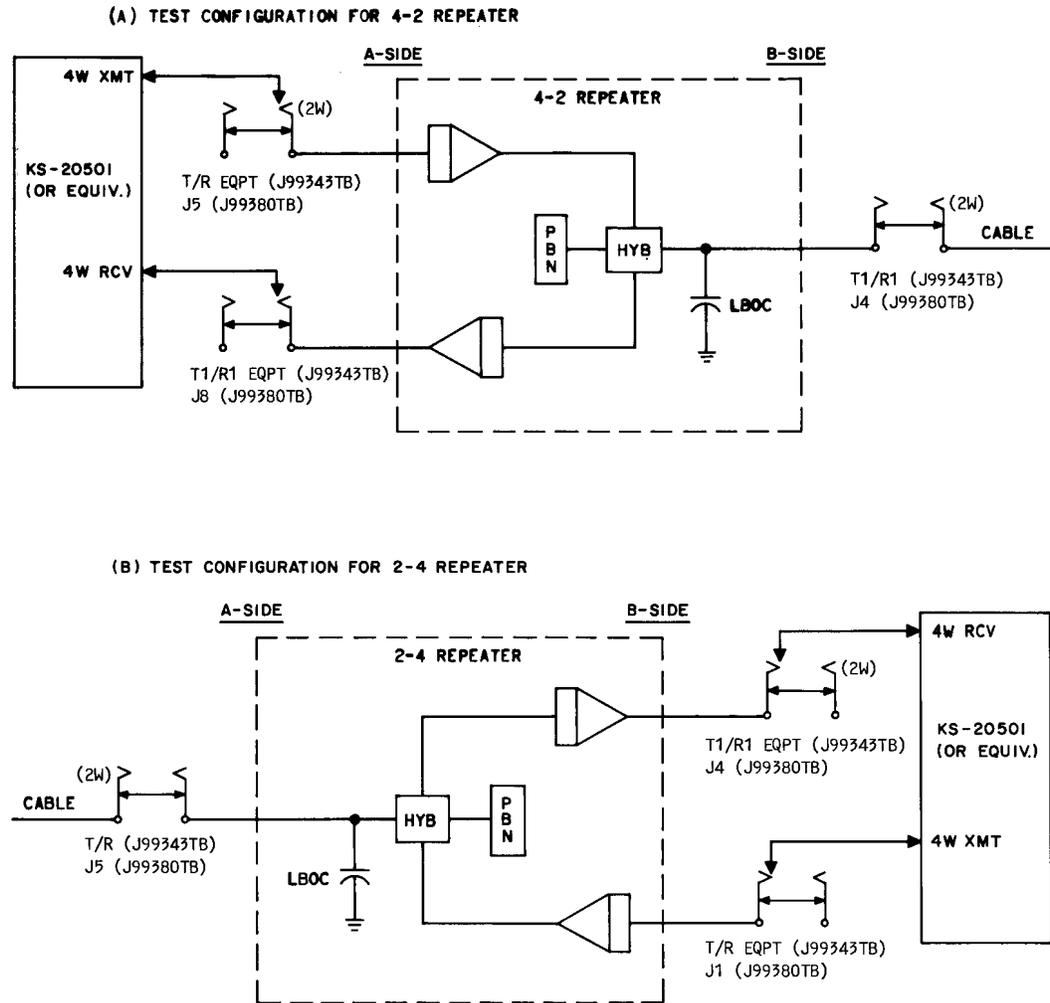

Fig. 15—Test Configuration For Setting the Precision Balancing Network by Measurement
8.07 The following procedure describes an orderly way to determine a PBN setting by the measurement of echo return loss (ERL), singing return loss (SRL), and high singing return loss (SRL HI): A return-loss measuring set [(RLMS) KS-20501, L3 or equivalent] arranged to measure 4-wire return loss is connected to the 4-wire side of the repeater. The three return-loss readings are maximized by making a series of trial settings of the PBN switches. See Fig. 15 for a diagram of the equipment arrangement for making these measurements.